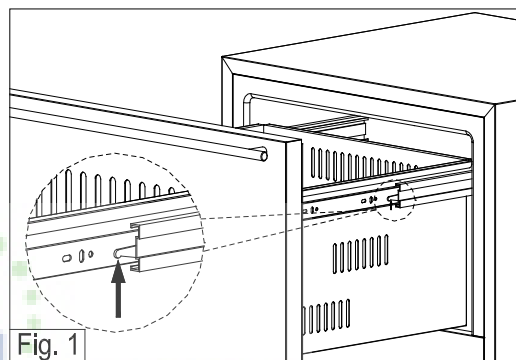

Fig. 1
- Remove any items stored inside the drawers. Press the left slide release lever down and at the same time lift the corresponding right slide lever up, and pull the drawer out until it is free of tracks and the cabinet. (Fig. 1)